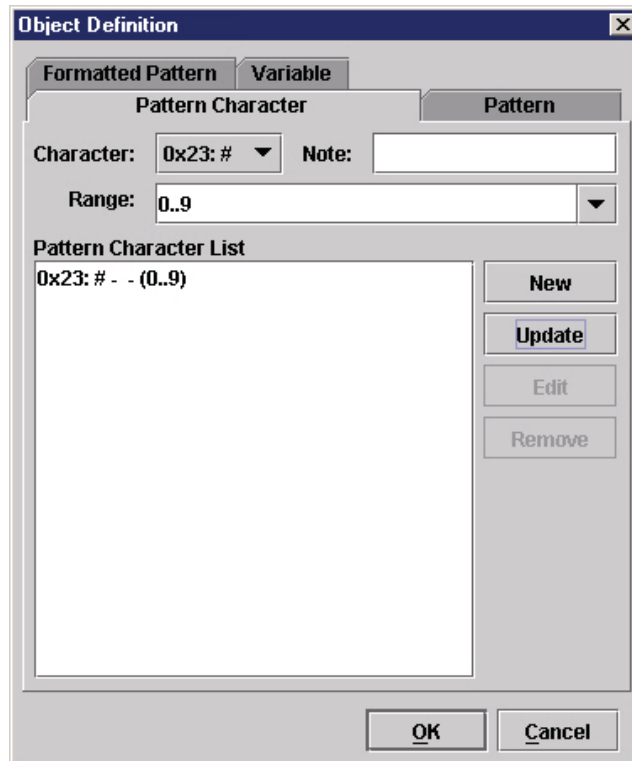

Figure 156 Defining a Pattern Character
5. Click **Add** to add the pattern character to the list. See Figure 156.